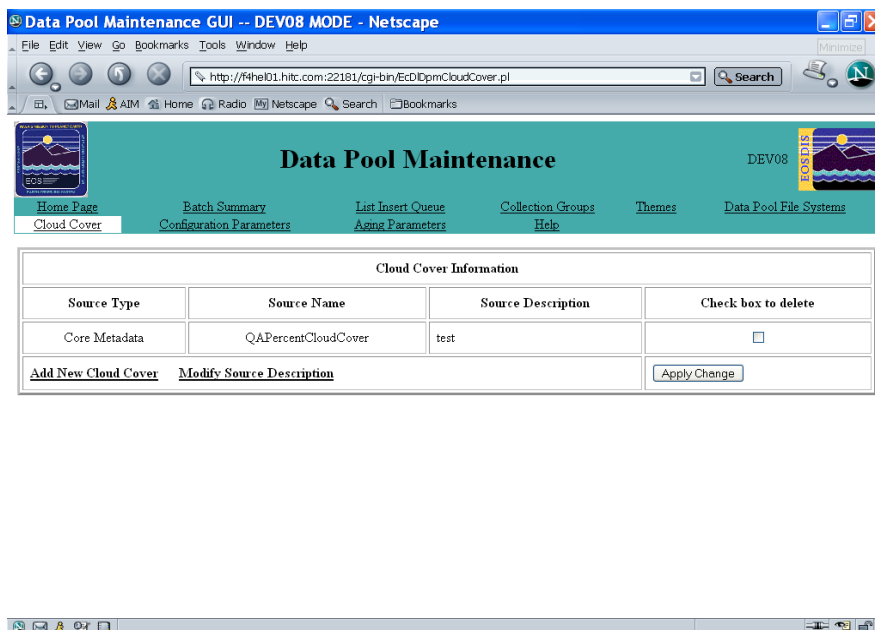
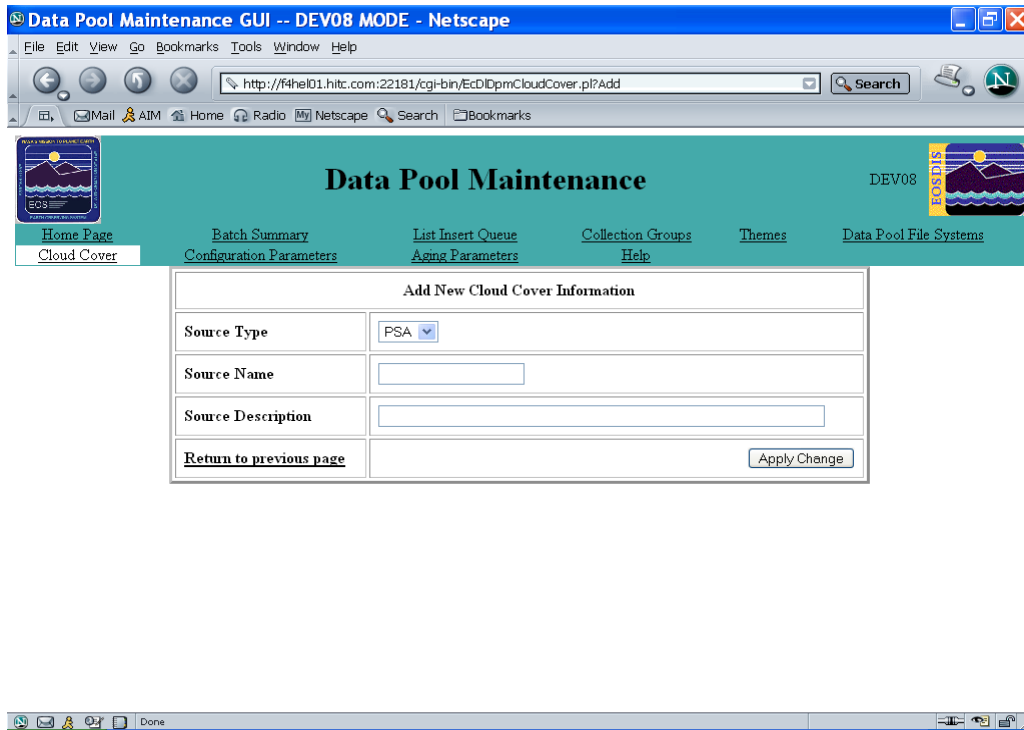

Figure 14.10-7. Cloud Cover Information Page
Figure 14.10-8. Add New Cloud Cover Information Page
Both full-capability and limited-capability operators can view existing cloud cover information in the Data Pool database by clicking on the **Cloud Cover** link shown in Figure 14.10-2. The link takes the operator to the **Cloud Cover Information** page shown in Figure 14.10-7. The page displays the information concerning the sources of cloud cover; i.e., the **Source Type**, **Source Name**, and **Source Description**.
- The **Cloud Cover Information** page is displayed (see Figure 14.10-7).
The full-capability operator can add a new cloud cover source by clicking on the **Add New Cloud Cover** link shown in Figure 14.10-7. The link takes the operator to the **Add New Cloud Cover Information** page shown in Figure 14.10-8. After selecting the Source Type from an option list and entering the Source Name and Source Description, the operator clicks on the **Apply Change** button. All Source Names are validated against the Inventory database. The new cloud cover source is added to the Data Pool database and the **Cloud Cover Information** page is refreshed.
- The **Add New Cloud Cover Information** page is displayed (see Figure 14.10-8).
The full-capability operator can modify an existing cloud cover Source Description by clicking on the **Modify Source Description** link shown in Figure 14.10-7. The link takes the operator to the **Modify Source Description** page shown in Figure 14.10-9. The operator can modify the Source Descriptions only. (To modify a Source Type or Source Name the operator must delete the applicable cloud cover information row and add a new one with the correct information.) After making desired changes, the operator clicks on the checkbox(es) adjacent to the source(s) to be modified and clicks on the **Apply Change** button. The changes are applied to the Data Pool database and the **Cloud Cover Information** page is refreshed.